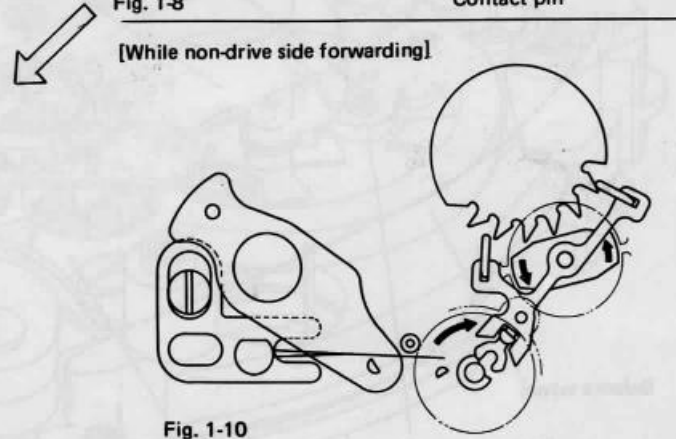

Fig. 1-10
- (4) When the balance rotates clockwise the pallet is driven in the reverse direction by elasticity of the hair spring, rotating the escape wheel (Fig. 1.10).